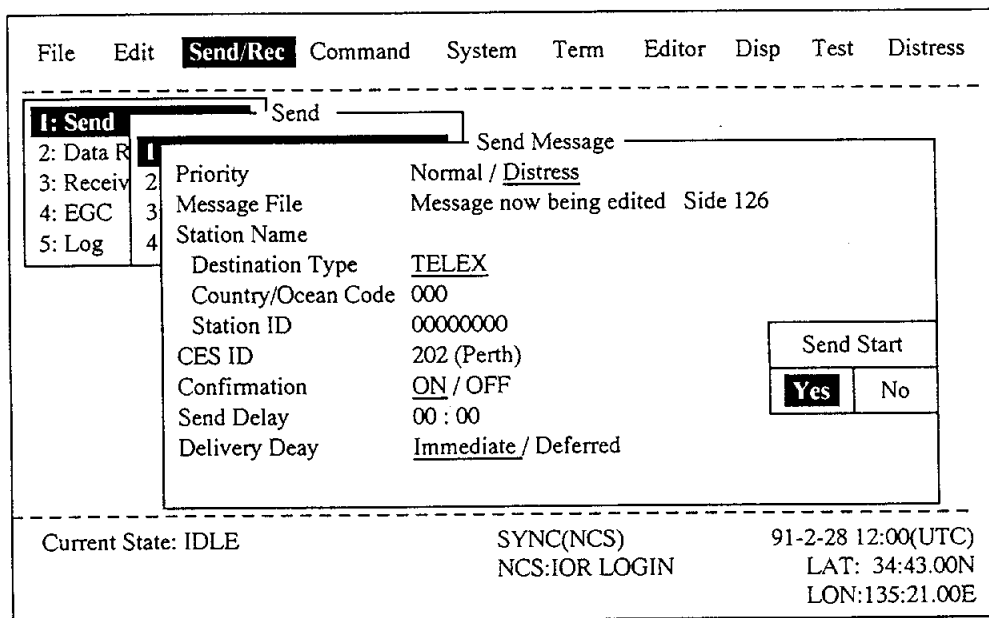

Figure 6-14 Send Message Screen with Send Start Confirmation Prompt
8. Press the **Enter** key. The display should look similar to Figure 6-14.